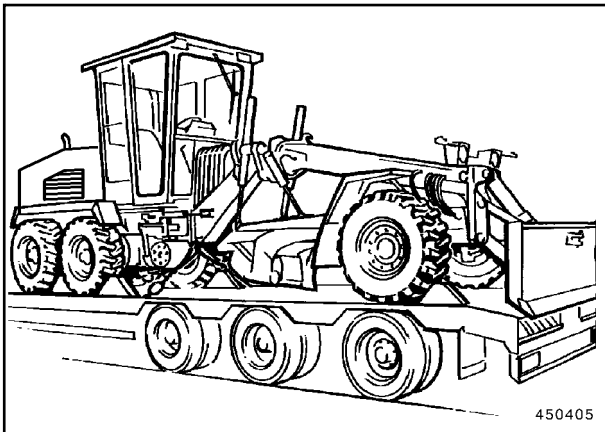

Fig. 1
- Drive the machine onto the low-bed trailer and lower the working attachments (Fig. 1).